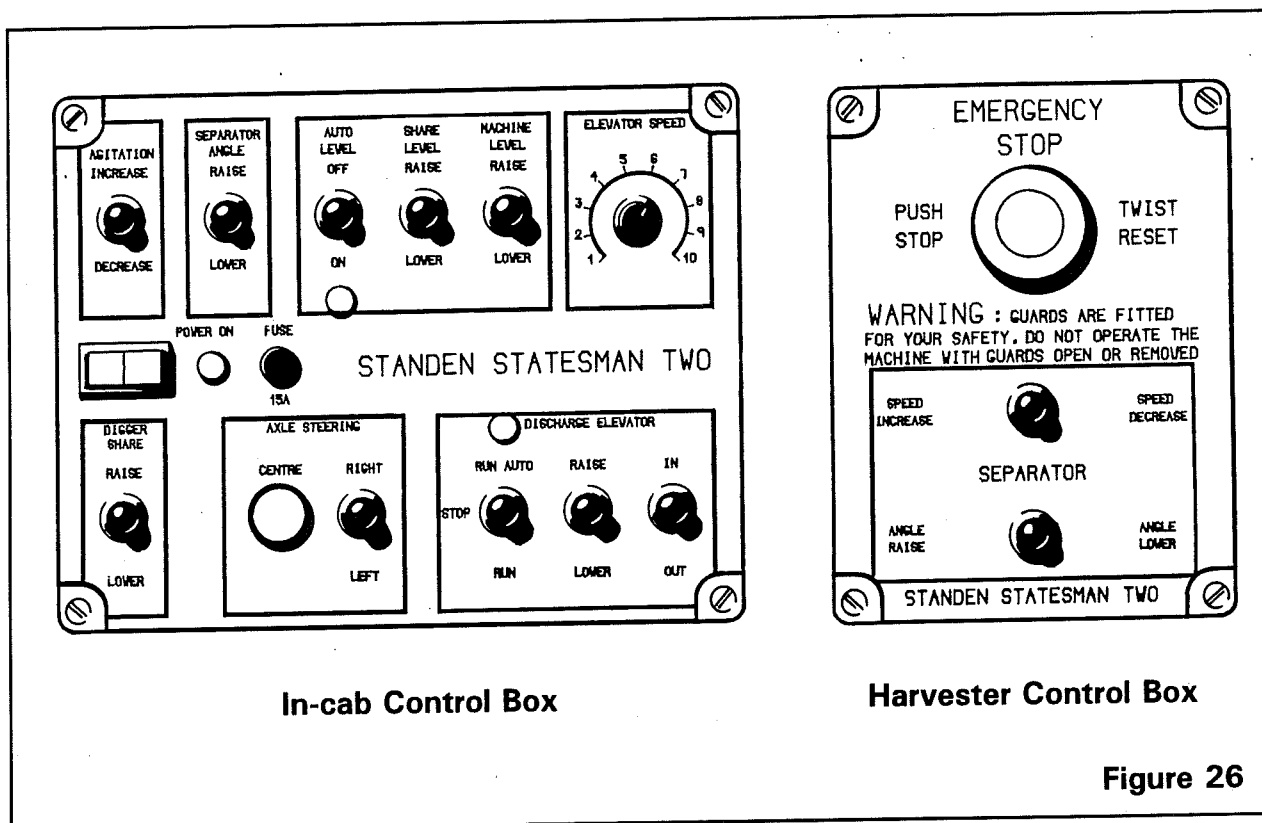
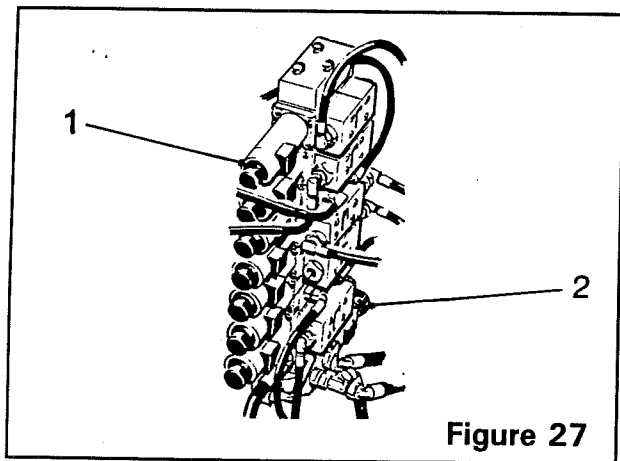

Figure 26
Figure 27
On the unmanned machine, the speed of the feed web and discharge elevator web can be increased or decreased to suit crop conditions. To adjust the speed of the webs, turn the control knob on the in-cab control box marked '**Elevator Speed**'. The higher the number, the faster the webs will travel. **NOTE: Ensure that the proportional valve control knob (item 2, figure 27) is screwed fully out at all times.**
The double platform allows up to six pickers to work in comfort, three on either side of the picking table. Two wooden rails are positioned above the picking table web to provide two moving reject belts. On the manned harvester, the C'elevator, picking table and discharge elevator are all hydraulically driven and can be varied in speed to suit crop conditions. To adjust the speed of the elevators, turn the control knob on the in-cab control box marked 'Elevator Speed'. The higher the number, the faster the webs will travel. **NOTE: Ensure that the proportional valve (item 2, figure 27) is screwed fully out at all times.**
The control for the major functions of the harvester are provided by the switches mounted on top of the in-cab control box and the harvester control box (see figure 26). Seven of these functions are operated by actuating individual hydraulic rams. The rams are actuated by a bank of solenoid valves (item 1, figure 27) mounted on the LH side of the machine. The remaining functions operated from the control boxes include; 'Discharge Elevator Auto Run/Stop/Run', optional 'Share Level Raise/Lower', optional 'Auto Level Off/On' and 'Separator Speed Increase/Decrease'. The 'Emergency Stop' button located on the harvester control box, when activated, shuts down